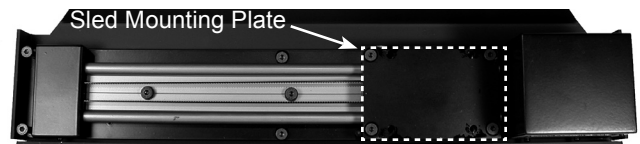

Figure 6
4. Place the Lens Holder Base onto the LN9101M Sled Mounting Plate with the Lens Holder Post oriented to the right. Secure the Lens Holder Base with the four supplied M6x30mm machine screws. Refer to figures 6 and 9.
Notes: The projected test pattern will probably have some forms of geometric distortions as a result of misalignment of the Anamorphic Lens to the projector. If a chattering noise is heard during sled movement, loosen all eight screws on the sled mounting plate, recycle the lens positions several times and then tighten the screws. Refer to figures 6 and 9 on page 6.